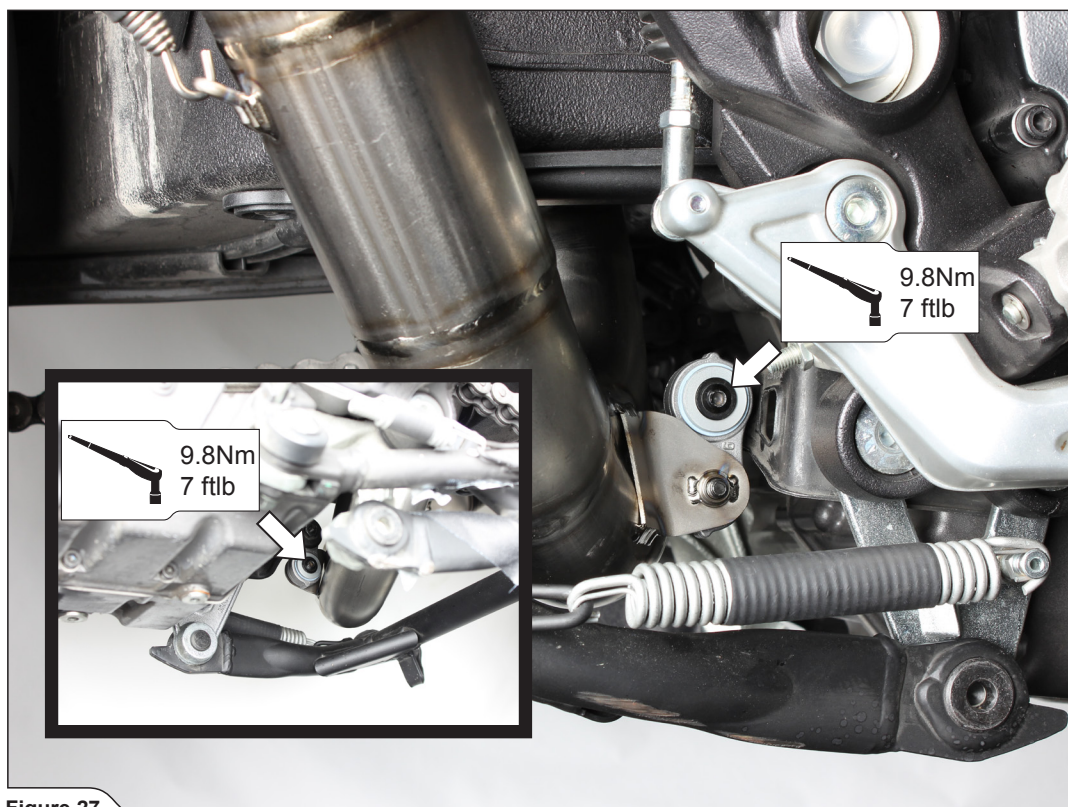

Figure 27
8. Tighten the collector to the frame, using stock bracket, bolts and washers (Figure 27).